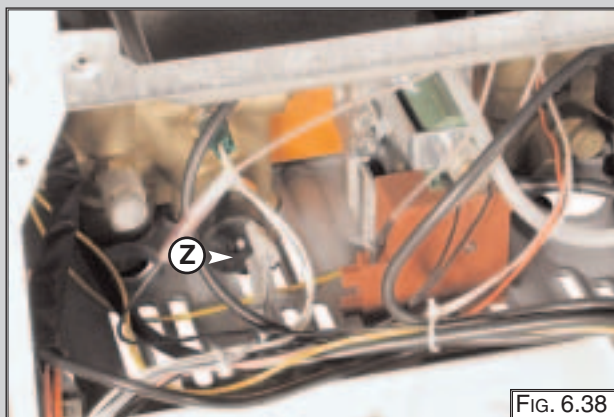

FIG. 6.38
1. Remove the pump pressure switch electrical connections "Z" (FIG 6.38);